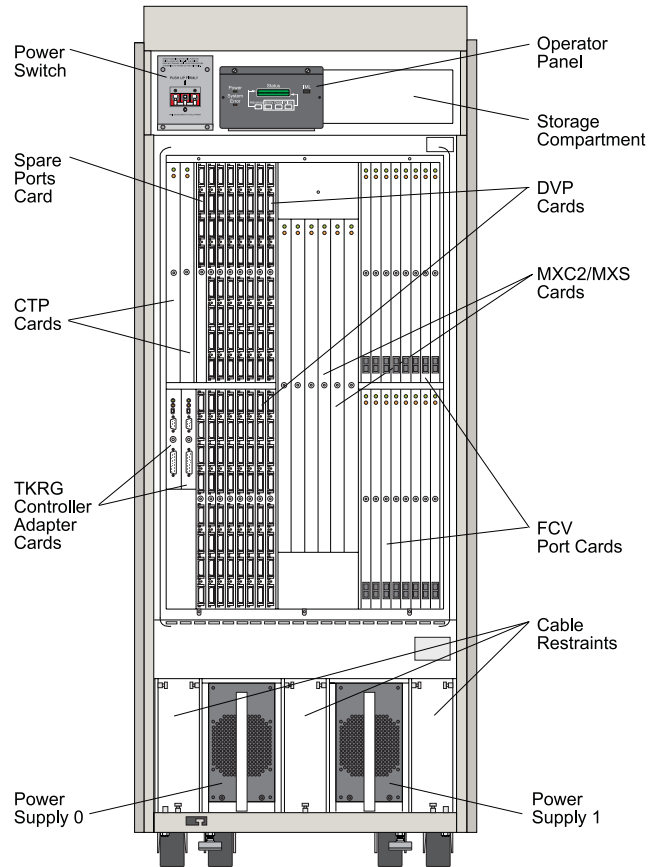

Figure 3-35. Director Front Showing Logic Cards
3. Disconnect all CTP, DVP, spare DVP, MXC, MXS, and TKRG cards from the logic board assembly. Refer to Figure 3-35 on page 3-73. Complete removal of the logic cards is not necessary; unseat them only. For all DVP, spare DVP, and TKRG cards, removal of cables is not necessary. For all logic cards: